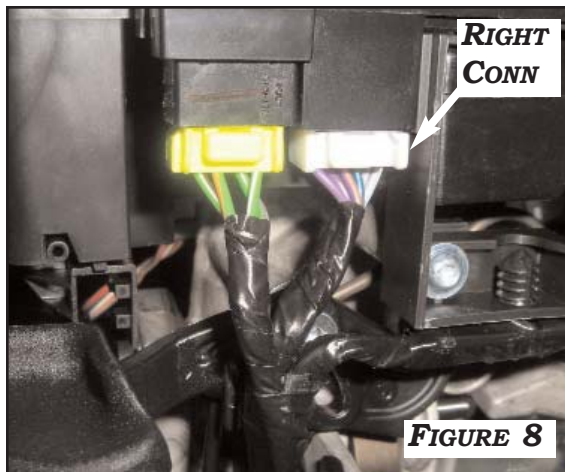

FIGURE 8
1. MEASURE 3/4" DOWN FROM THE BACK SIDE TOP CORNER AND 1/4" IN FROM THE OUTER EDGE TO CUT CLEARANCE FOR SWITCH AT RIGHT SIDE OF STEERING COLUMN. **FIGURES 8 & 9.**
4. INSERT **PINK** CRUISE WIRE TO **PIN 18** OF ECM, **VIOLET** CRUISE WIRE TO **PIN 34**, AND **YELLOW** CRUISE WIRE TO **PIN 15**. ONCE PINS ARE INSERTED, RE-ASSEMBLE CONNECTOR. ROUTE THE CLOCKSPRING/ECM HARNESS INSIDE VEHICLE TO STEERING COLUMN. LOOK BELOW STEERING COLUMN. LOCATE FAR RIGHT CLOCKSPRING CONNECTOR. **FIGURE 8.** USING **CLOCKSPRING/ECM HARNESS** IN KIT, INSERT **PINK** CRUISE WIRE TO **PIN 4**, **YELLOW** CRUISE WIRE TO **PIN 5**, AND **VIOLET** CRUISE WIRE TO **PIN 6. FIGURE 8A**